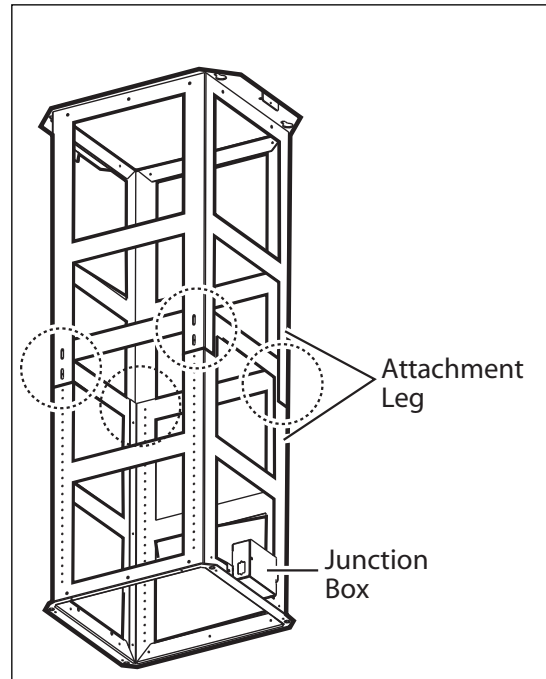

FIG.3
1. Adjust chimney mounting structure to $E + 3/8''$ dimension as determined in installation height calculation on page 7. Use 2 screws per attachment leg, see Fig. 3.